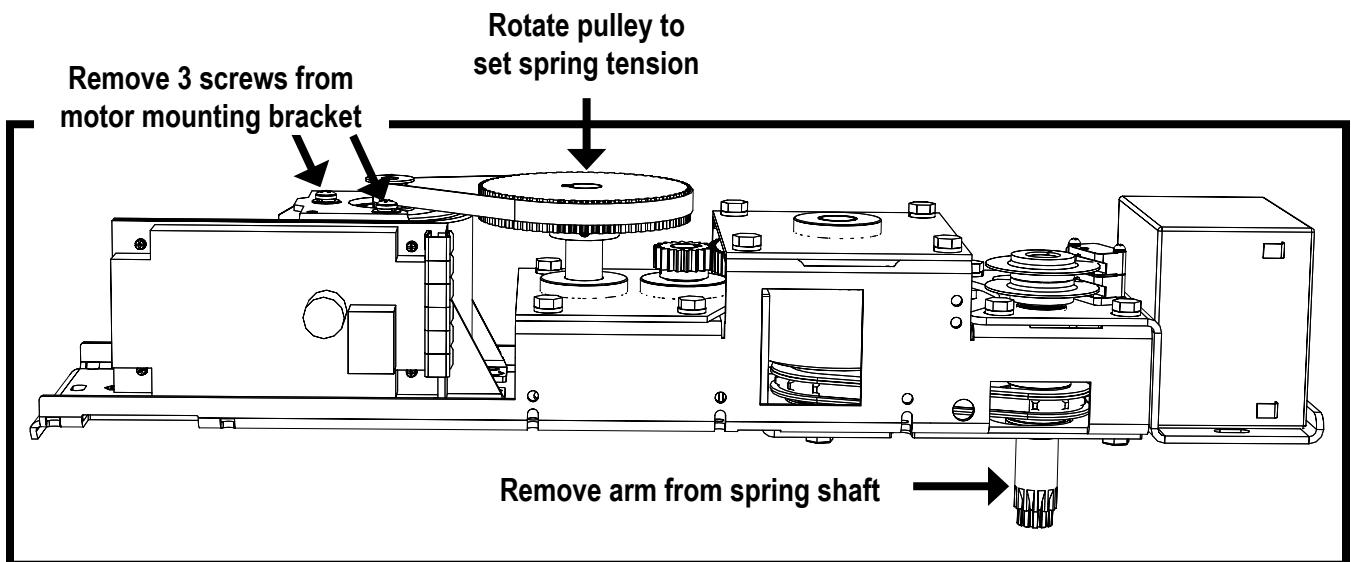

Figure 111 Setting Spring Tension (RH Shown)
- a) **For right-hand operators**, rotate the pulley in a **clockwise** direction to feel a noticeable resistance. Release the pulley, and when it stops rotating, turn the pulley **clockwise** 3 more times and insert a small flat-head screwdriver between the belt and the pulley. Refer to Figure 111.
- b) **For left-hand operators**, rotate the pulley in a **counter-clockwise** direction to feel a noticeable resistance. Release the pulley, and when it stops rotating, turn the pulley **counter-clockwise** three more times and insert a small flat-head screwdriver between the belt and the pulley. Refer to Figure 111.
- c) The operator may have to be removed for this step. If drive belt tension adjustment is required, loosen the three $\frac{1}{2}$ " Phillips machine screws from the motor mounting bracket and slide left or right to tighten/loosen the belt around the pulley. Refer to Figure 111.